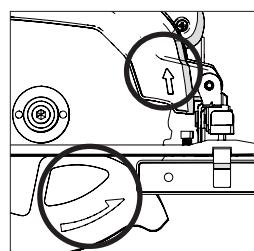

Fig. 6
- Ensure that the direction of rotation arrows printed on the blade, match the direction of rotation arrows found on the machines upper and lower blade guards. (**Fig. 6**)